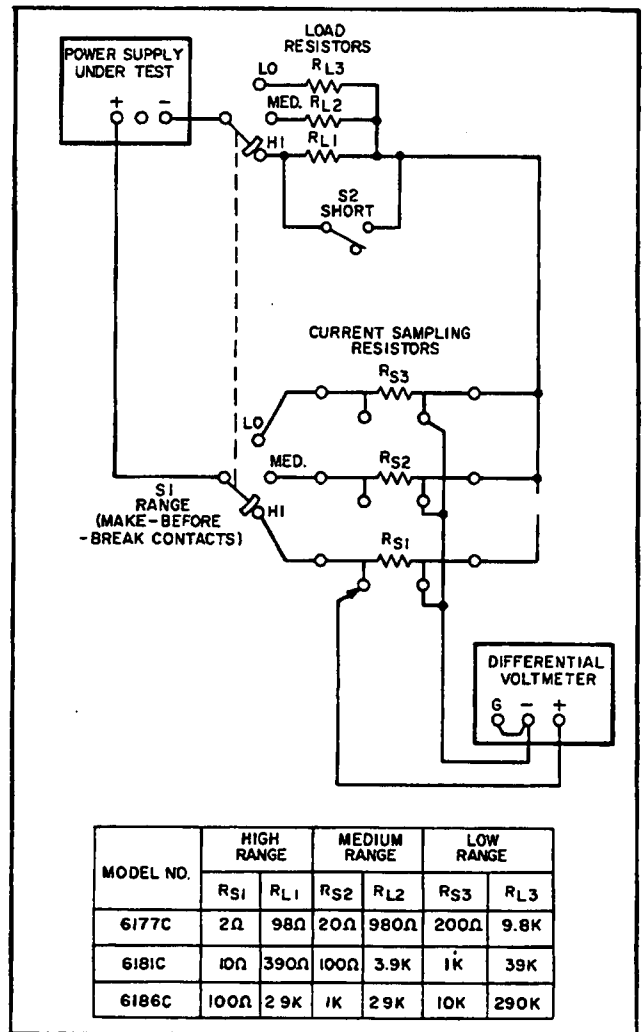

Figure 5-3. Output Current Test Setup
5-9 The monitoring device is connected across the sampling resistors as shown in Figure 5-3. As indicated in this illustration neither output terminal of the power supply is grounded and the measuring device case is connected to the junction of the load and sampling resistors. This arrangement prevents ground loop paths and shunt current paths. Notice that shunt resistance paths between the external switches and ground can exist. However, since the shunt resistance appears across only one of the external resistors and not across the entire output terminals of the supply, the performance of the supply is not degraded.
- Connect test setup shown in Figure 5-3, leaving switch S2 open throughout test.
- Connect test setup of Figure 5-3 except connect the differential voltmeter between the guard (terminal A0) and - output terminals (see Figure 3-7 for voltmeter connections).
- a. Connect test setup shown in Figure 5-3.
- a. Utilize test setup shown in Figure 5-3, except connect variable auto-transformer between input power source and power input to supply. Leave switch S2 open throughout test.
- a. Use test setup of Figure 5-3, except connect ac voltmeter across sampling resistors instead of differential voltmeter. Ensure that power supply output is floating to avoid ground loops.